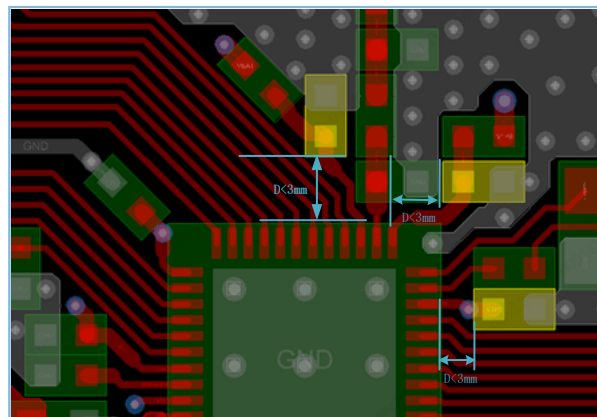

Figure 3-8 Reference layout and routing for RF input power supply
1. Decoupling capacitors (highlighted in yellow rectangles in Figure 3-8) connected to VDD_RF, VDD_VCO, and VDD_AMS should be as close to the corresponding pin as possible (around 1 mm is recommended, and shall not exceed 3 mm). Place the capacitors on the same layer with the pins if possible, and make sure the wiring path goes through the capacitors first and then connected to the chip power pins. In case the capacitors are not placed on the same layer with the pins, the vias should be located close to the decoupling capacitors.